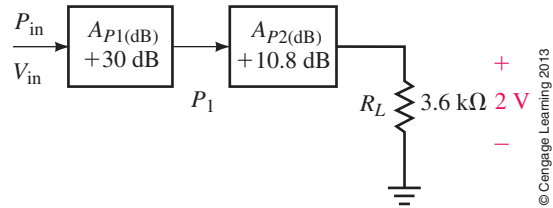

FIGURE 22–51
20. Suppose that the system of Figure 22–51 has an output voltage of 2 V.